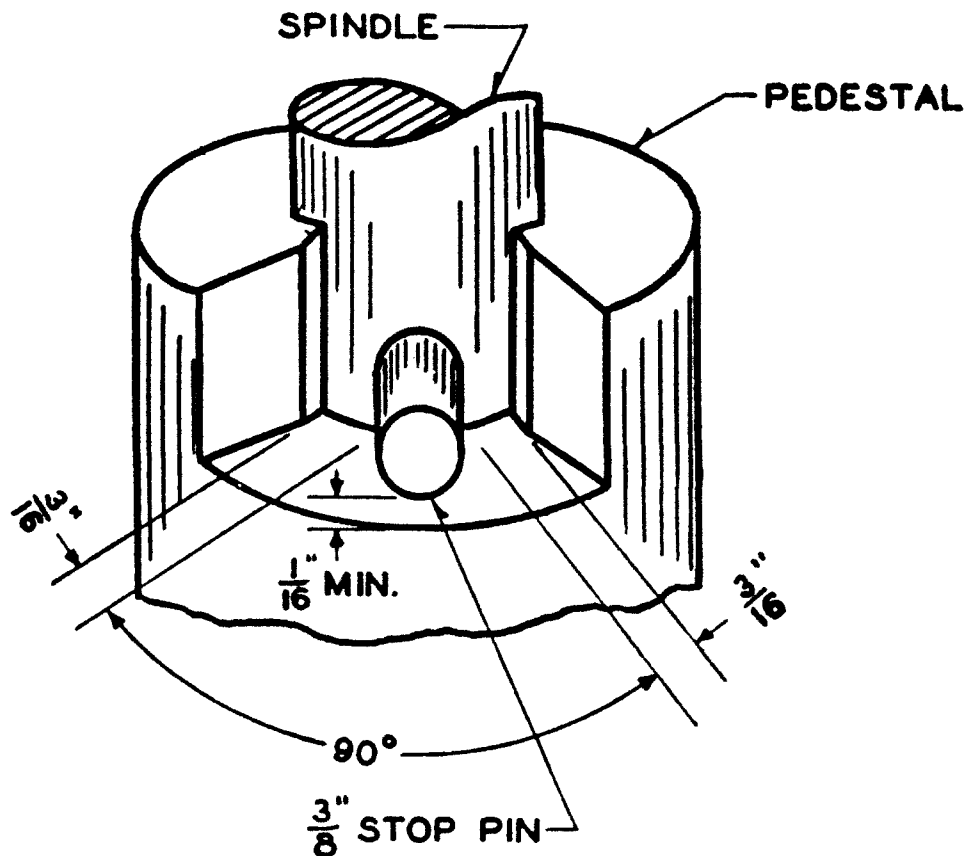

Fig. 6
5.02 On all chairs having a stop pin limiting the rotation of the chair, as shown in Fig. 6, the stop pin shall be $\frac{3}{8}$ inch diameter. Chairs having $\frac{5}{16}$ inch stop pins are subject to pin breakage and should be replaced.
5.03 The stop pin shall clear, by at least $\frac{1}{16}$ inch, the top surface of the castellated truncated sector over which it swings as shown in Fig. 6.